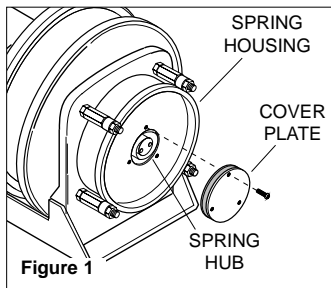

Figure 1
7. Remove cover plate on spring housing to expose shaft and spring hub. (See Figure 1).